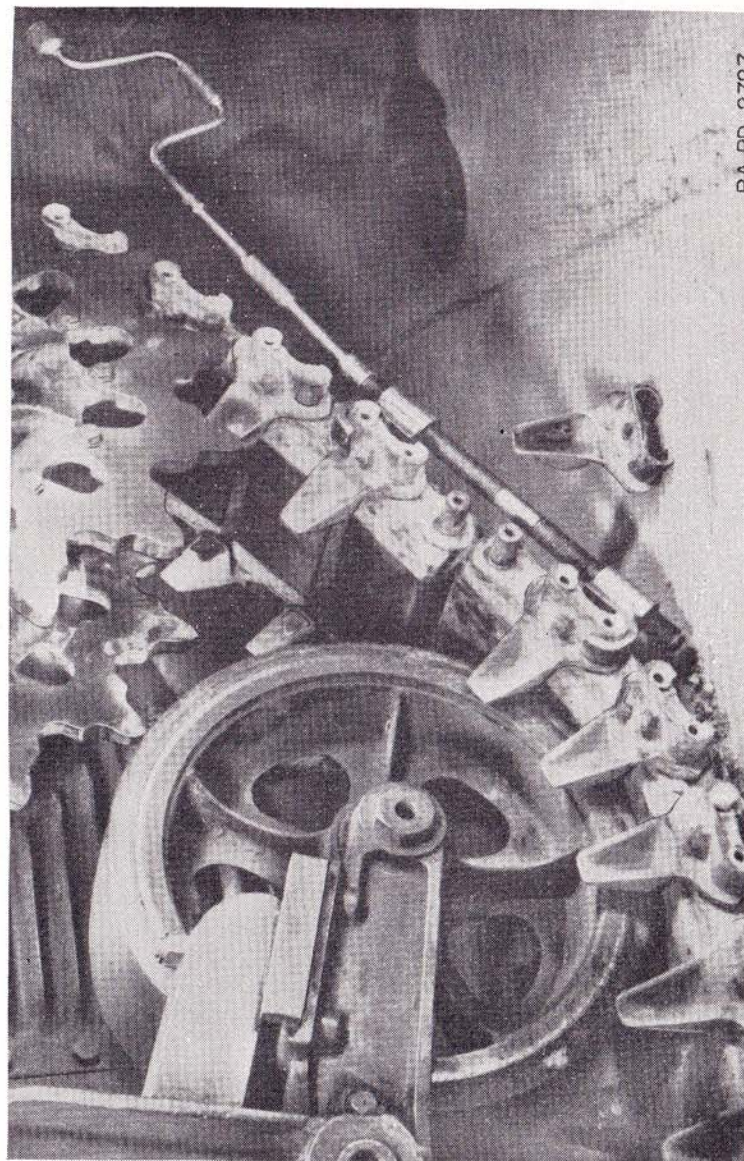
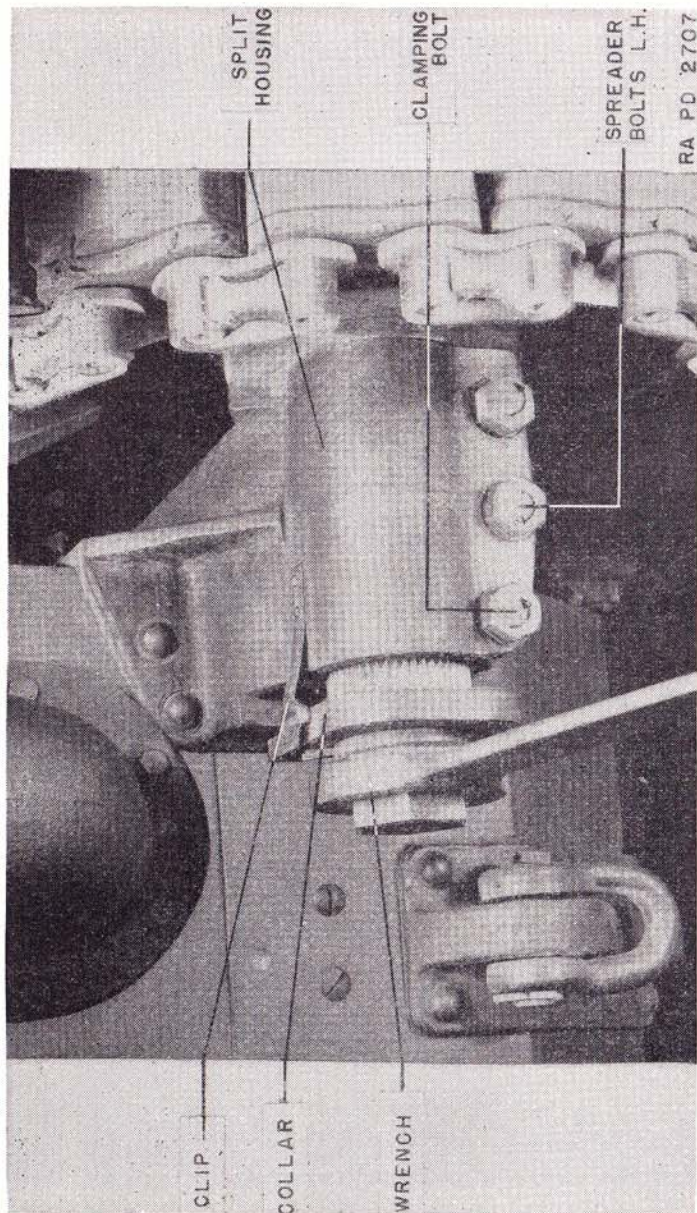
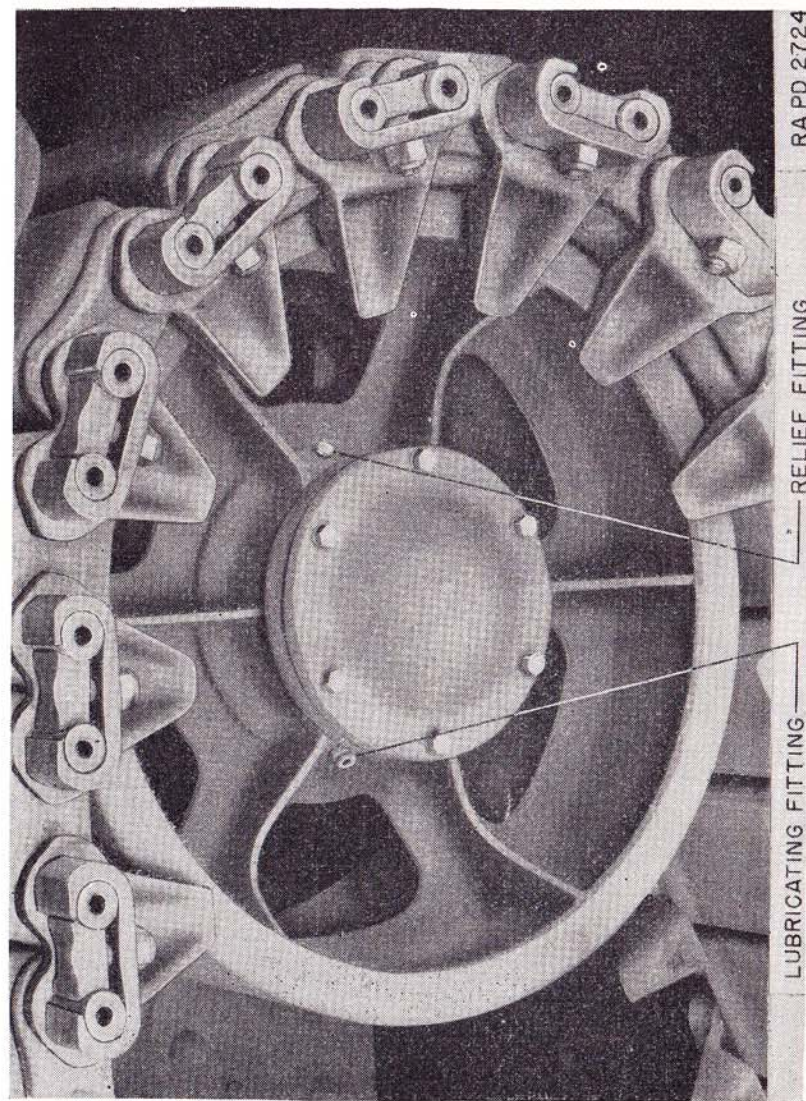

FIGURE 56.—Assembly of track.
FIGURE 57.—Idler track adjustment.
FIGURE 58.—Track idler.
- (5) Lower the bottom portion of the track to the ground.
- (6) Move the upper portion of the track to the rear over the drive sprocket and supporting rollers by means of a crowbar.
- (7) Push or pull the vehicle off the tracks.
*d. To replace track* (fig. 56).—(1) Lay the track on the ground in a trench at the tank and deep enough so that the bogie can ride onto track, and push or pull the vehicle on it so that the end of the track projects out beyond the front bogie wheel approximately 16 inches.
(2) Bring the other end of the track over the idler and track-supporting rollers to the drive sprocket.
(3) Take up the slack by revolving the drive sprocket forward with a long bar.
(4) Bring the end shoes together by means of a special jack hook until the guides, wedges, and nuts can be replaced as shown in figure 56.
(5) Adjust track as described below.
*e. To adjust track* (fig. 57).—(1) Loosen the two outside clamping bolts which hold the spindle of the eccentric cam in the split housing.
(2) Spread the split housing by turning the center bolt counterclockwise.
(3) Raise the clip at the end of the spindle.
(4) Drive the collar (plate) off the serrations of the spindle.
(5) Adjust the idler by turning the hex end of the spindle shaft.
(6) When the track is adjusted, slide the collar back onto the serrations of the spindle and lock it with the clip. Release the center bolt by turning it clockwise and tighten the two outside bolts.
**98. Idlers.**—*a. Description* (fig. 58).—Two large steel idler wheels are mounted on the end opposite the driving sprockets to support the tracks. They are provided with an eccentric adjustment for the purpose of adjusting the tension of the tracks.